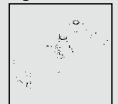

Fig. 2
- Additionally secured by guide plate for lateral approach forces (Fig. 2)